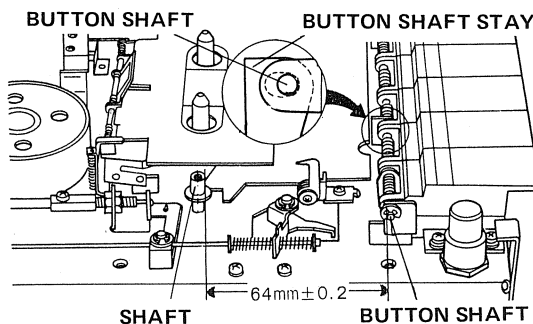

Fig. 9
1. Refer to Fig. 9. Adjust position of push-button assembly so that clearance between pushbutton shaft and SHAFT becomes 64 ± 0.2 mm.
2. Confirm that there is no play between push-button shaft stay and pushbutton shaft. See small insert in Fig. 9.
3. Take clearance on the left as shown in small insert in Fig. 9.